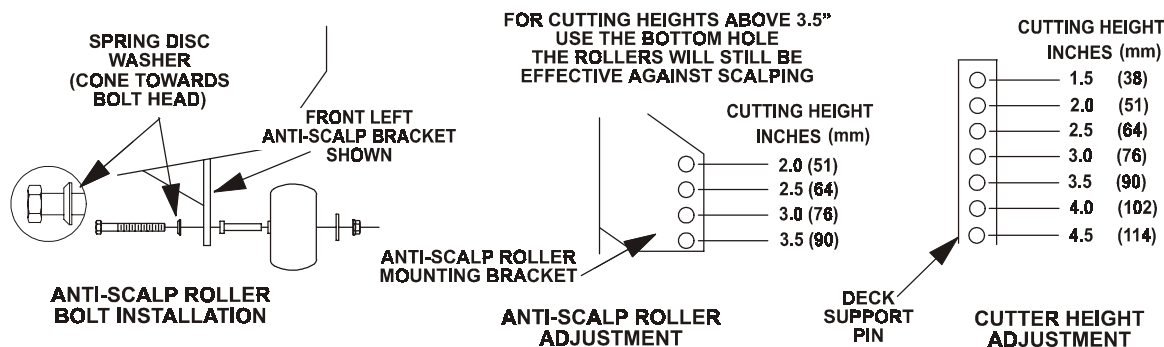

FIG 14
a) Install hairpin clips in the holes shown on sketch below for the desired cutting height (See Figure 14).
- b) Adjust anti-scalp rollers for Normal Operating Conditions. Stop engine. Place rollers in one of the positions shown in Fig 14. Rollers will maintain 3/4 in. (19 mm) clearance to the ground to minimize gouging and roller wear or damage. **For Maximum Deck Flotation**, place rollers one hole position lower. Rollers should maintain 1/4 in. (6.4 mm) minimum clearance to ground. **Do Not** adjust rollers to support the deck. Be sure roller bolts and nuts are installed with the spring disc washer between head of bolt and mounting bracket. **Torque to 40-45 ft-lbs., or loss of roller may result.**
- c) When operating in extremely rough conditions it may be necessary to position the anti-scalp rollers one or two holes higher than described in "b" to prevent damage to the rollers and/or bolt failure (See Figure 14). **NOTE:** When anti-scalp rollers are placed in these positions, reduced deck flotation will result.